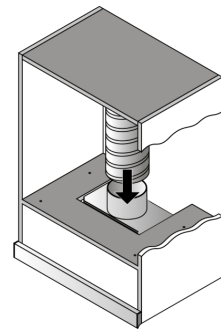

Fig. 5.2
6.8 If the hood is to be operated in chimney sweep mode, install the ducting of the chosen diameter according to the instructions (Fig. 5.2), ensuring that it is tight. Note that the shorter and straighter the ducting, the higher the